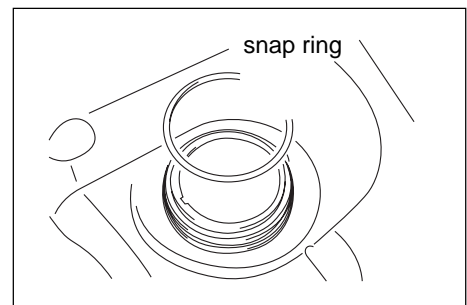

Figure 3-8
6. Mount the fuel oil pump assembly (see Figure 3-8). Replace the sealing ring. Align the boss on the oil pump with the nick on the oil tank port; tighten the oil tank cap with special tool.